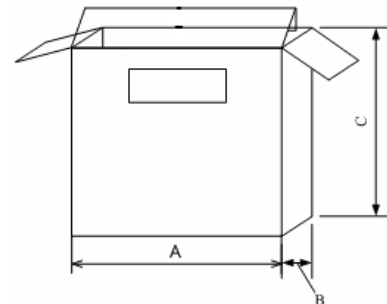

Fig. 8.2.3-3
- a). Inner box please refers to **Fig. 8.2.3-3** and **Table 8.2.3-1**.
- b). Marking Label on inner box (see **Fig. 8.2.3-4**).
- 3) Marking on outer case (see **Fig. 8.2.3-5-7**):